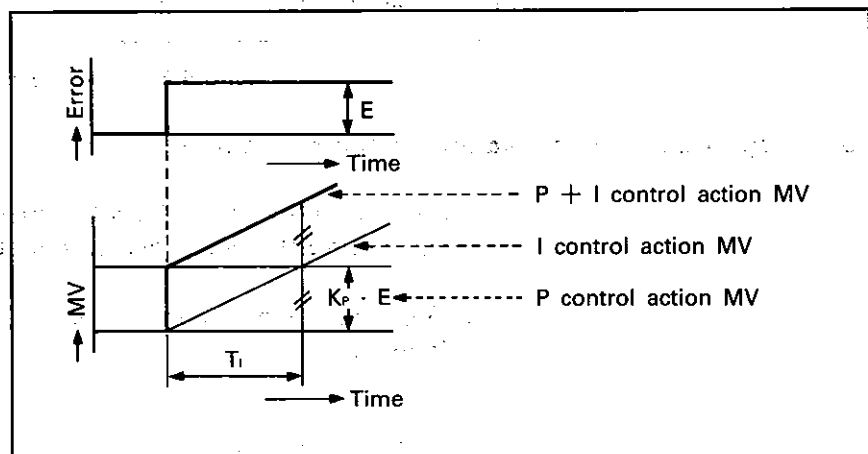

Fig. 1.6 Integral Control Action Where Error Is Constant
- (3) Fig. 1.6 shows an integral control action where the error is constant.